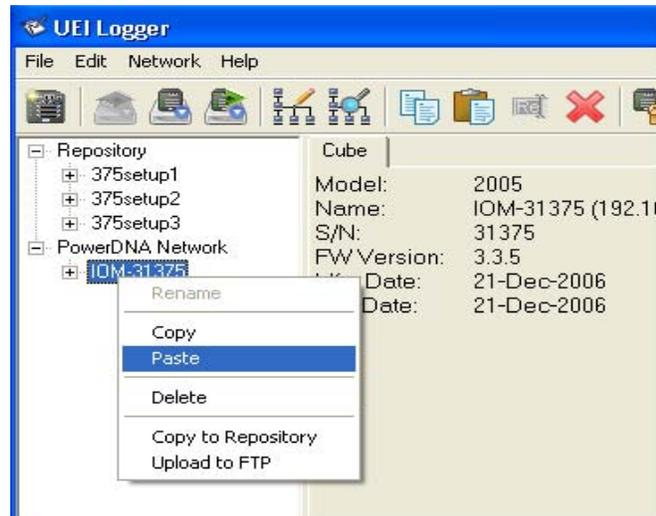

Figure 2-11 Copying a Configuration to a Cube - Step 3
- STEP 3:** Move cursor to the Active Cube, right-click, and select Paste, as shown in **Figure 2-11**. This action copies the configuration files from Setup1 to the Cube for the current session. Be sure to paste the files to the Cube and *not* to the CFG folder under the Cube.